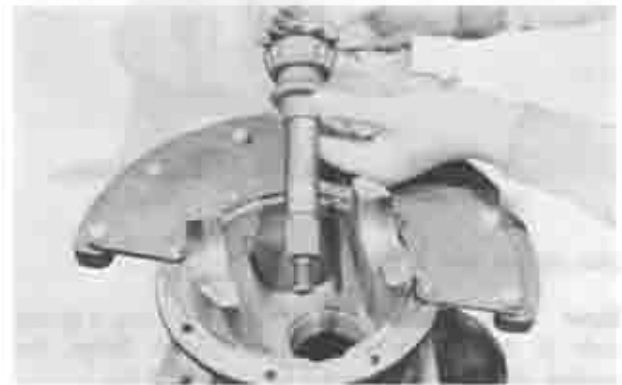

Fig. 9-23 Installing drive pinion and spacer
1. Install the collapsible spacer and collar onto the drive pinion and install them in the carrier, as shown in Fig. 9-23: